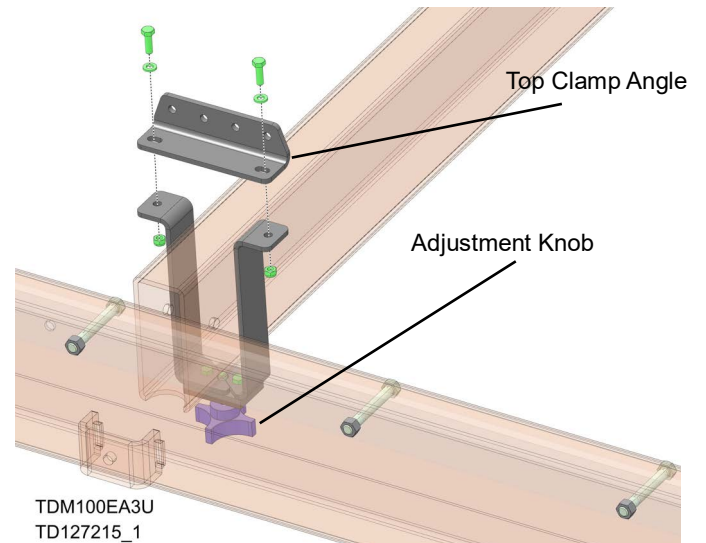

FIG. 3-5
2. Install clamp on bed rail as shown in FIG 3-5.
3. Use (2) M6-1x20 Bolts, (2) M6 Flat Washers, and (2) M6 Nylock Nuts to attach Top Clamp Angle.